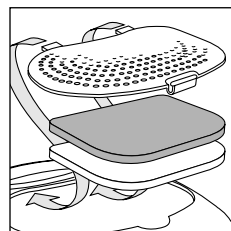

fig. 10
P.S. The white filter must rest on the metal part and the coloured area must face upwards (or towards the black filter). Reassemble the filter cover, being careful to insert the front hooks correctly (fig. 10).